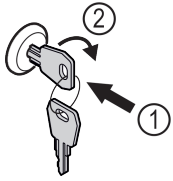

Fig. 172 Example illustration
- ▶ Insert key Fig. 172 (1).
- ▶ Turn key clockwise by 90° Fig. 172 (2).